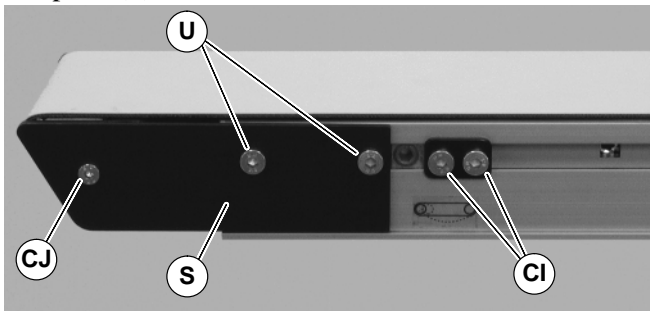

Figure 54
2. On one side of conveyor, use a 3 mm and 4 mm hex-key wrench to remove head plate fastening screws (CJ & U of Figure 54) and remove head plate (S).
4. After replacing bearings, re-install head plate (S of Figure 54). Use a 3 mm hex-key wrench to tighten one (1) fastening screw (CJ) to 3.4 Nm. Leave two (2) fastening screws (U) loose for belt tensioning.